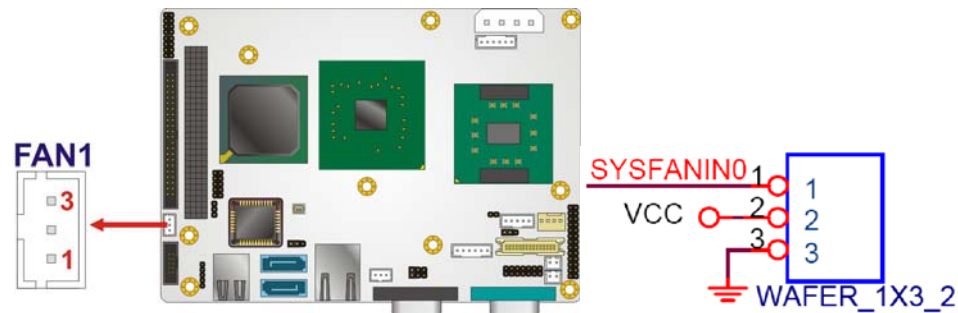

Figure 4-21: System Fan Connector Location
- CN Location:** See **Figure 4-21**